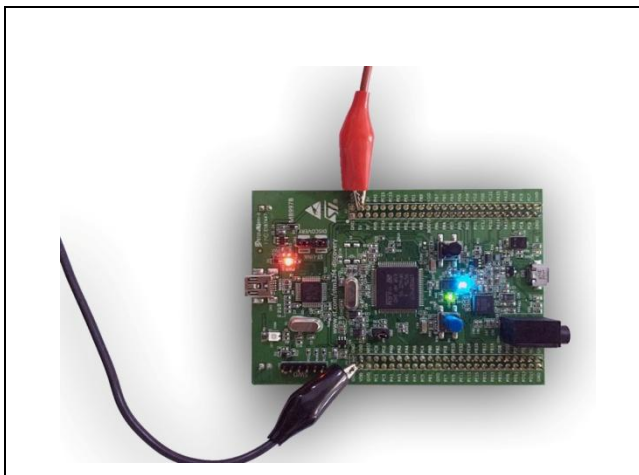

Figure 18: Connecting the Power Cables to the Circuit (Step 1)
1. The Power Cable is connected to the electronic circuit supply. Red Cable (+), Black cable (-). (Figure 18)